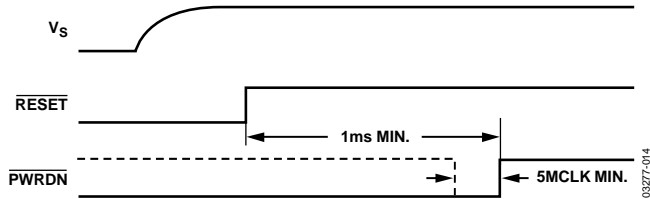

Figure 30. Power-Up Sequence for Tx Data Path
Upon initial power-up, the  $\overline{\text{RESET}}$  pin should be held low until the power supply is stable (see Figure 30). Once  $\overline{\text{RESET}}$  is deasserted, the AD9878 can be programmed over the serial port. The on-chip PLL requires a maximum of 1 ms after the rising edge of  $\overline{\text{RESET}}$  or a change of the multiplier factor (M) to completely settle. It is recommended that the  $\overline{\text{PWRDN}}$  pin is held low during the reset and PLL settling time. Changes to ADC clock select (Register 0x08) or System Clock Divider N (Register 0x01) should be programmed before the rising edge of  $\overline{\text{PWRDN}}$ . Once the PLL is frequency locked and after the  $\overline{\text{PWRDN}}$  pin is brought high, transmit data can be sent reliably. If the  $\overline{\text{PWRDN}}$  pin cannot be held low throughout the reset and PLL settling time period, the power-down digital Tx bit, or the  $\overline{\text{PWRDN}}$  pin, should be pulsed after the PLL has settled. This ensures correct transmit filter initialization.